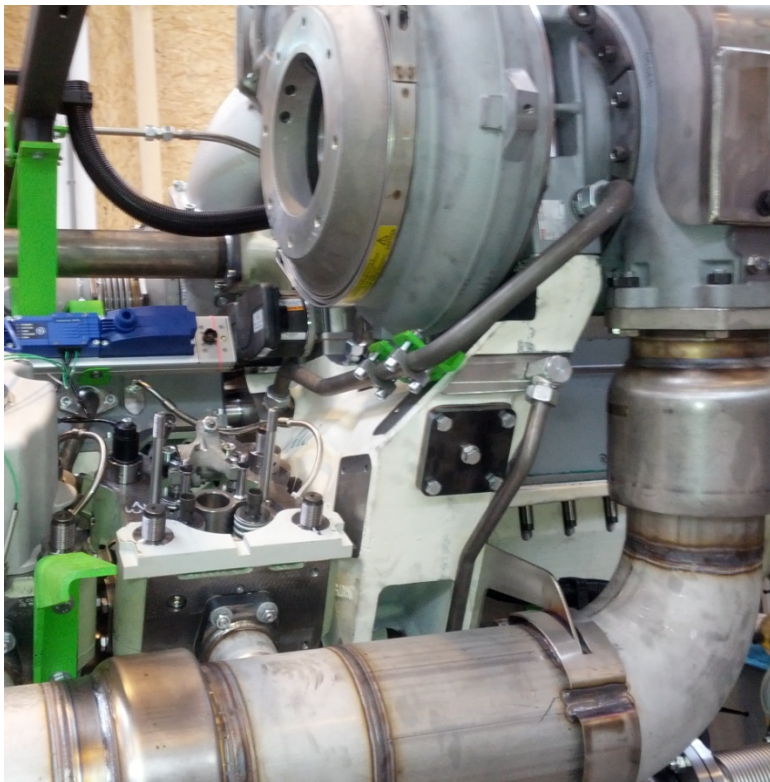

Fig. 1: Remove the mixture intake lines
- Depending on the number of cylinders and the version of the Type 6 engine in question, several engine components must be removed before mounting the milling machine. The parts affected are mainly the mixture intake lines before the turbochargers and the blowby filters with brackets. For example, on J 620F engines the mixture intake lines at the end cylinders must be removed in the vicinity of the turbocharger (see Fig. 1).